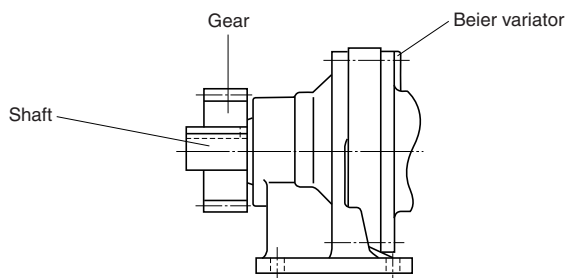
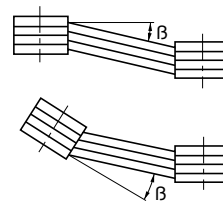

Fig. 6
Fig. 7
(2) When Using a Chain Sprocket and Gear
- Install sprocket and gears so that their point of load application will be closer to the variator side with respect to the length of the shaft. (Fig.6)
(3) When Using a V-belt
- The parallelism and eccentricity (β) between two pulleys should be within $20'$. (Fig.7)